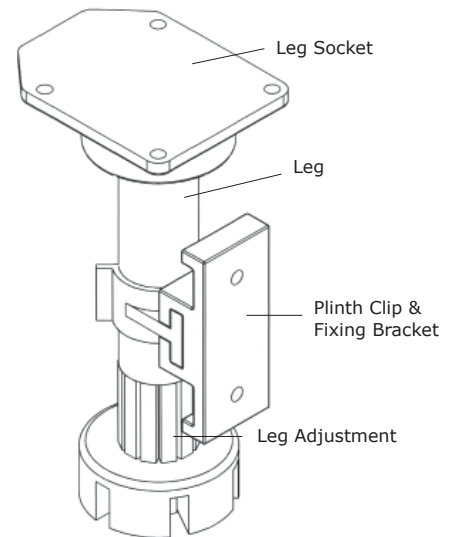

Fig.1
1. Turn the unit upside down. Place leg socket into place and screw to the bottom of the carcass. Insert legs into sockets making sure they are pushed all the way in. Wind the leg to approximately 180mm (Plinth height). Adjustment may be required to level off. **FIG.1**